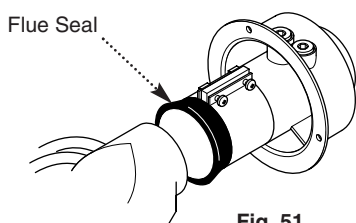

Fig. 51
2. Roll the flue seal back over itself onto the adaptor spigot (Fig. 51).